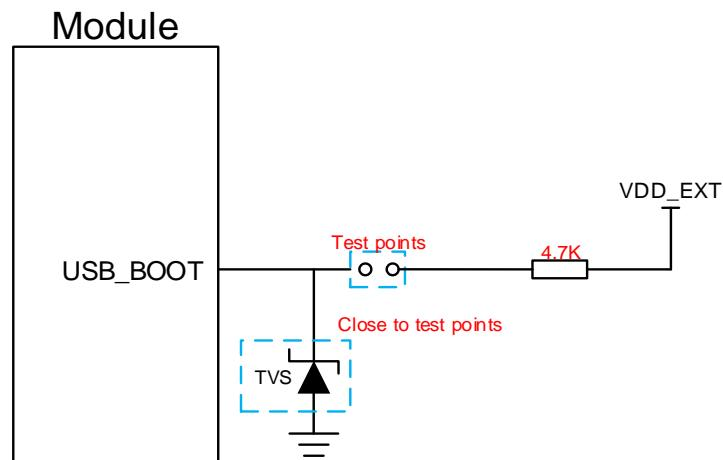

Figure 27: Reference Circuit of USB_BOOT Interface
3. When using MCU to control module to enter the emergency download mode, please follow the above timing sequence. It is not recommended to pull up USB_BOOT to 1.8 V before powering up VBAT. Connect the test points as shown in **Figure 27** can manually force the module to enter download mode.